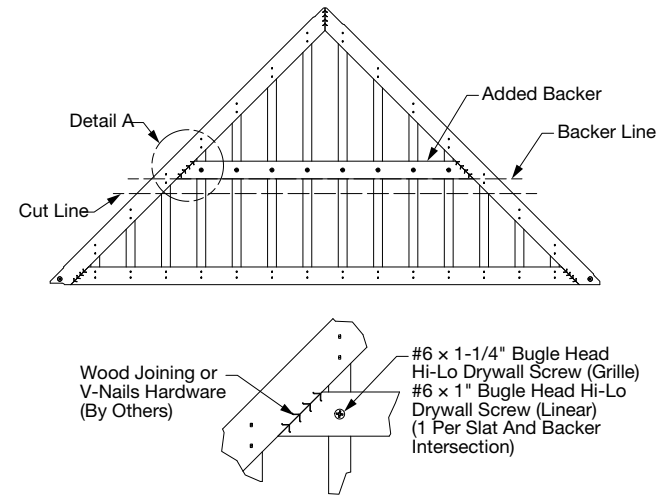

Fig 64
2. Using backer kit (Item 8270L96GBL), install a backer along the **BACKER LINE** (*Fig 64*):